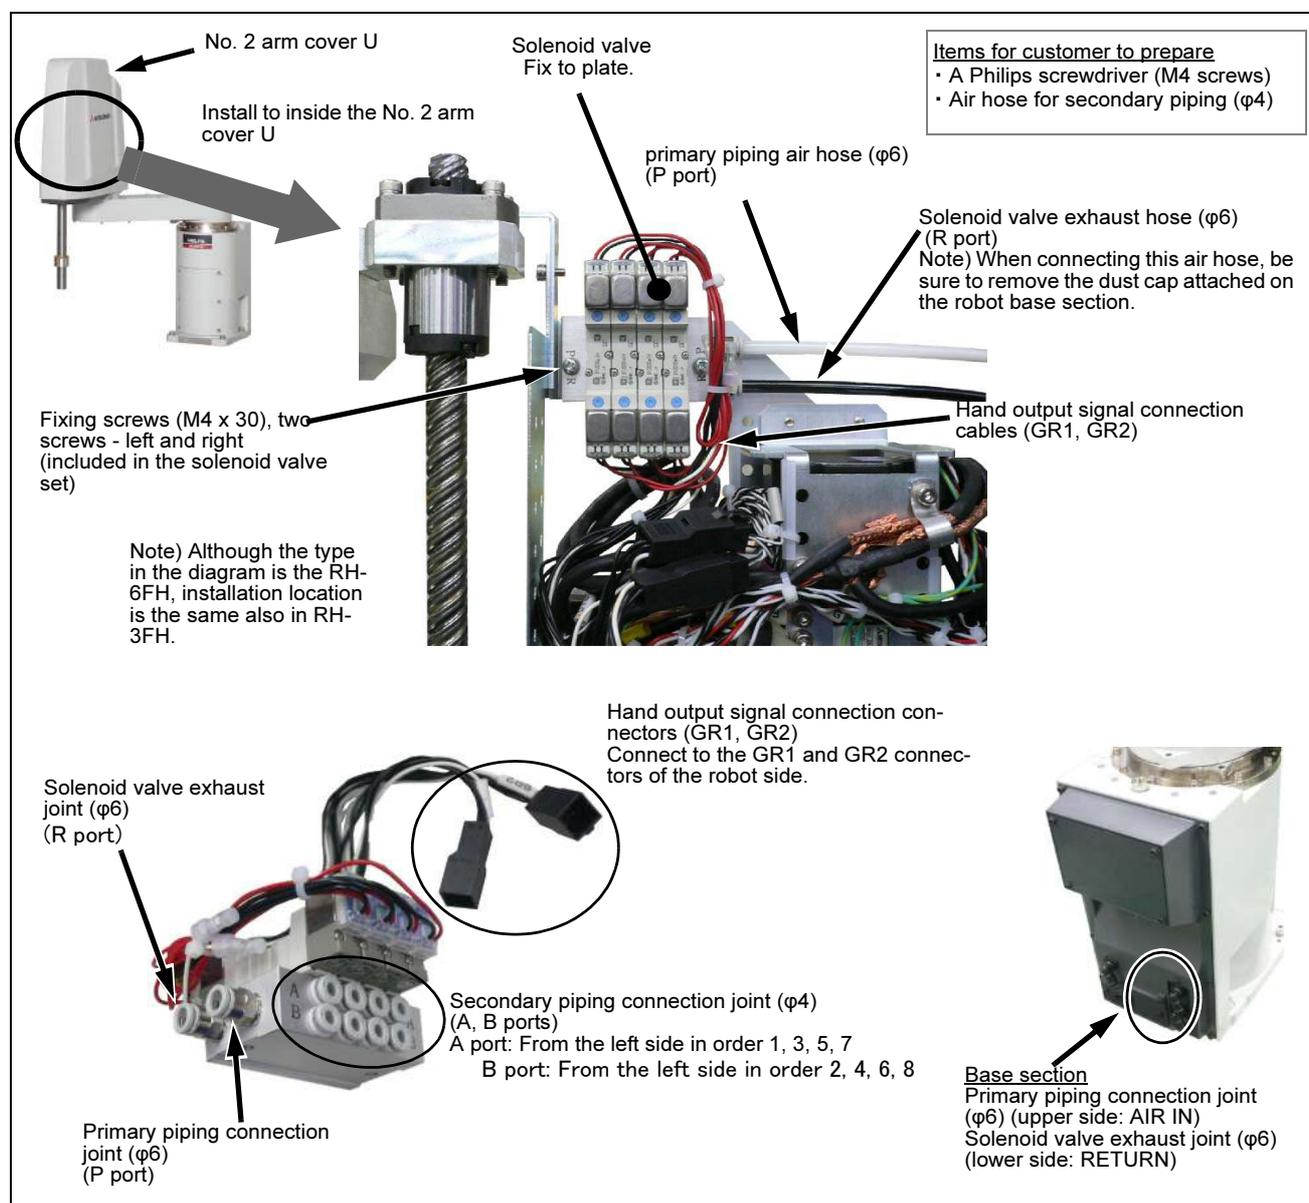

Fig.3-1 : Solenoid valve installation procedures (RH-3FH/6FH)
The installation summary of the solenoid valve is shown in Fig. 3-1 and Fig. 3-1. Remove the No.2 arm cover U, and install the solenoid valve on the No.2 arm. Turn the controller's power OFF before this installing operation. Refer to Page 68, "5.3.2 Installing/removing the cover" for removing/ installing the cover.
- 2) Fix the solenoid valve to the plate in the position indicated in Fig. 3-1. Place it so that the solenoid valve's primary piping connection joints (P, R ports) are located on the right hand side, and fix it securely using the M4 screws included (tightening torque: 1.39 to 1.89 N · m).
- 2) Fix the solenoid valve to the plate in the position indicated in Fig. 3-1. Place it so that the solenoid valve's primary piping connection joints (P, R ports) are located on the upper side, and fix it securely using the M4 screws included (tightening torque: 1.39 to 1.89N · m).
Refer to Page 49 "Fig. 3-1 Solenoid valve installation procedures \(RH-3FH/6FH\)" and Page 52 "Table 3-1: Solenoid valve ports and hoses: Correspondence of couplings and hand ports" for connect to the port